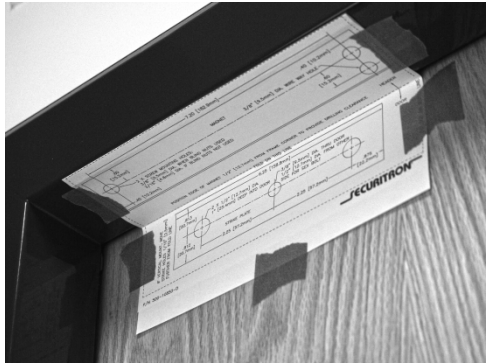

Figure 4. Attaching the Template
2. **ATTACH** the template to the door and frame as shown in Figure 4, "Attaching the Template."